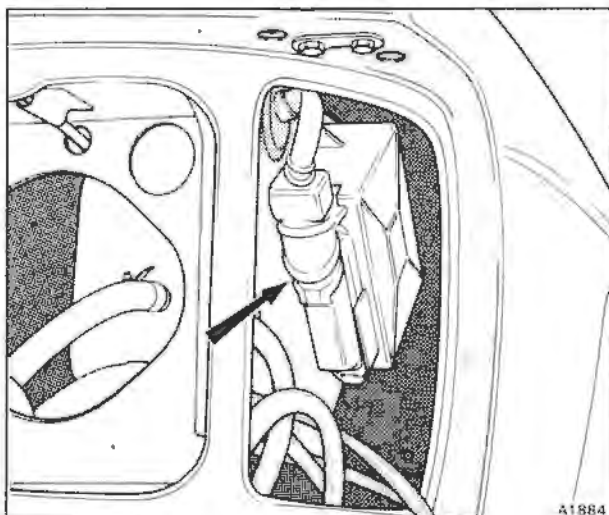

Fig. D2-6 Boost control electronic control unit (ECU)
**Boost control** (see fig. D2-6)